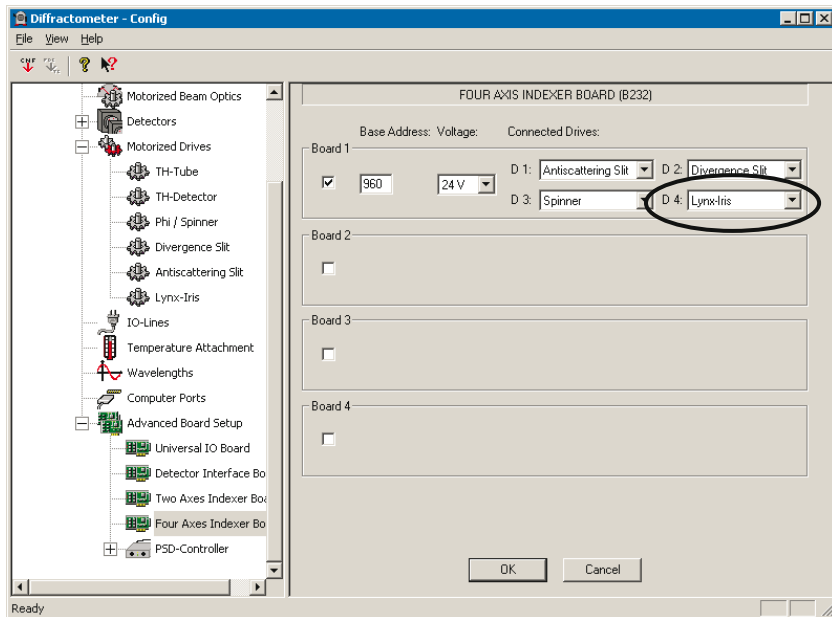

Figure 7.17 Assign the connection of the Lynx Iris
8. Within the **Advanced Board Setup>Four Axes Indexer Boards** section assign the physical connection of the Lynx Iris established in Section 7.1 item 10 (see Figure 7.17).